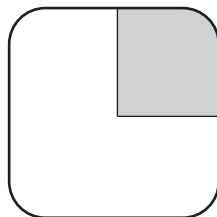

Fig. 2.1
- (a)** Select a field of view so that you can observe the different tissues as shown by the shaded area in Fig. 2.1.
- (i)** Draw a large plan diagram of the region of the stem on **L1** shown by the shaded area in Fig. 2.1.